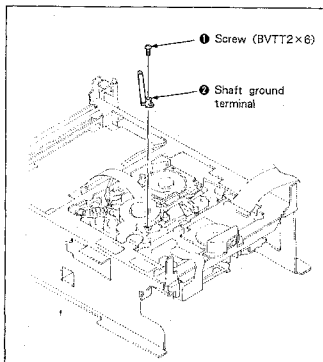

Fig. 7-50.
1. Removal (See Figs. 7-50. and 7-51.)
- 1) Remove the screw ① and remove the shaft ground terminal ②. (See Fig. 7-50.)
- 2) Remove the flexible connector ③ from the FR-30P board.
- 3) Disconnect the two connectors ④.
- 4) Remove the two screws ⑤ and remove the drum assembly ⑥.
2. Mounting (See Figs. 7-50. and 7-51.)